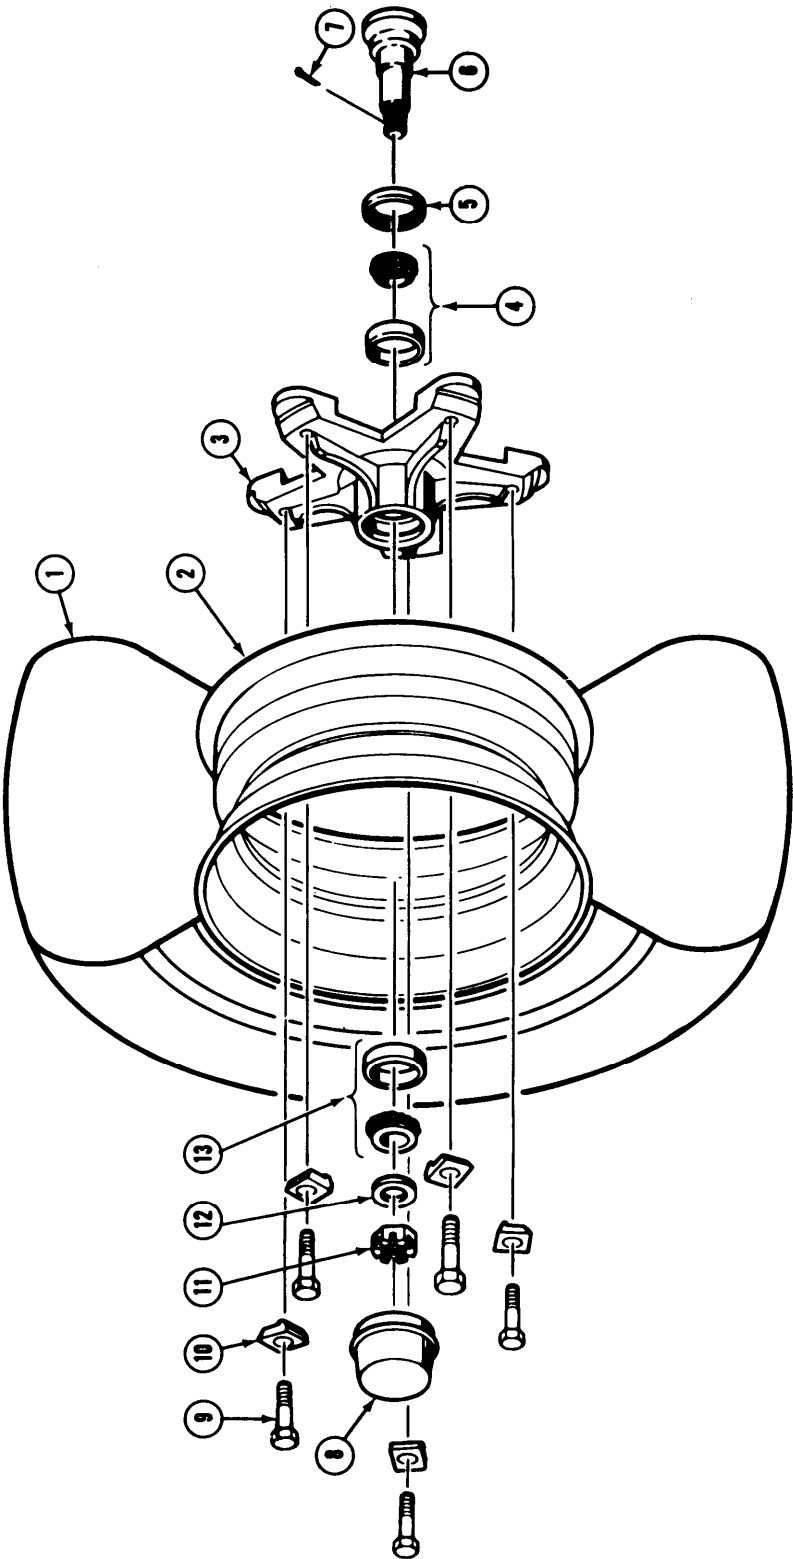

Figure 5-7. Hub Assembly
n. Remove tire and rim (1 and 2, Fig. 5-7) and hub assembly (3) from axle by removing rim bolts (9) and rim clamps (10).
a. Install tire and rim (1 and 2, Fig. 5-7) and hub assembly (3) to axle by using rim clamps (10) and rim bolts (9).
#### 5.5.6 Hub Assembly (Fig. 5-7)